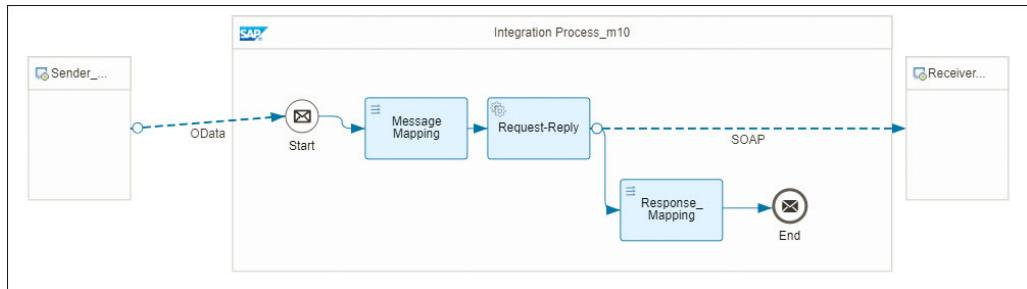

Figure 4.110 Integration Flow with Message Mapping Instead of Content Modifier
2. Remove the **Content Modifier** step, and replace it with a **Message Mapping** step (see Figure 4.110).